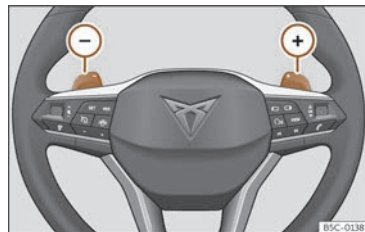

Fig. 116 Steering wheel: automatic gearbox levers
- Press the  gear shift paddle to change up a gear >>> **Fig. 116.**